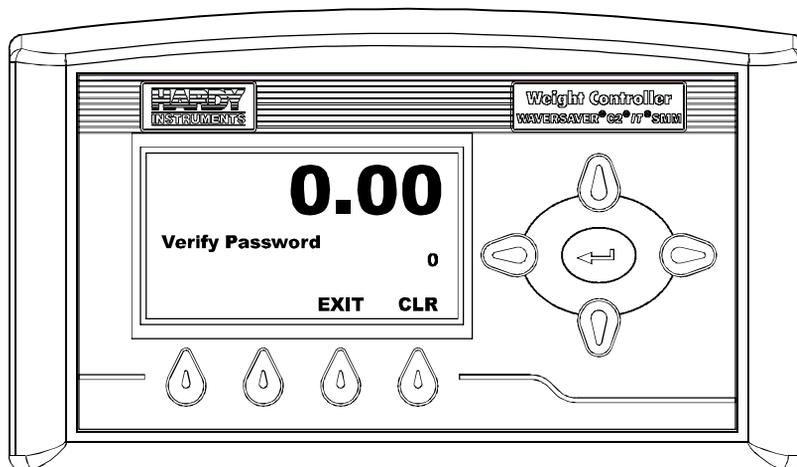

FIG. 287 VERIFY PASSWORD MENU
- Press the Enter button. The Verify Password display appears. (See Fig. 287)